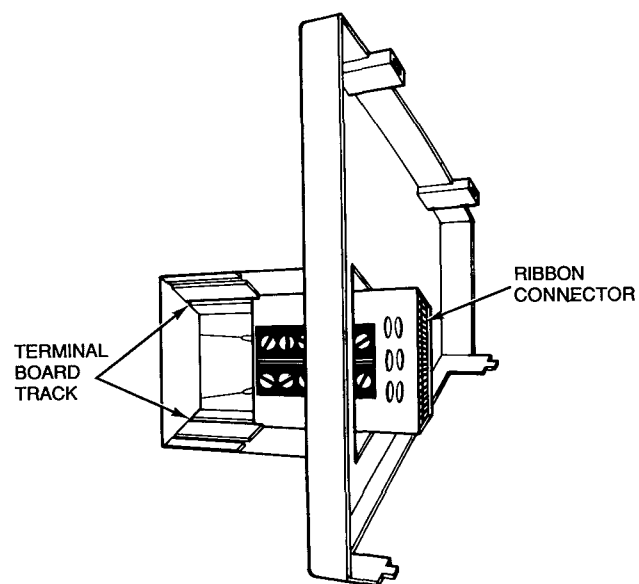

Fig. 5 — Terminal Board Installation
3. Align the terminal board with the right track in the back plate housing. See Fig. 5. The ribbon strip side of the terminal block should be away from the wall. Push the terminal block into the track until about $\frac{1}{2}$ -in. is left protruding.